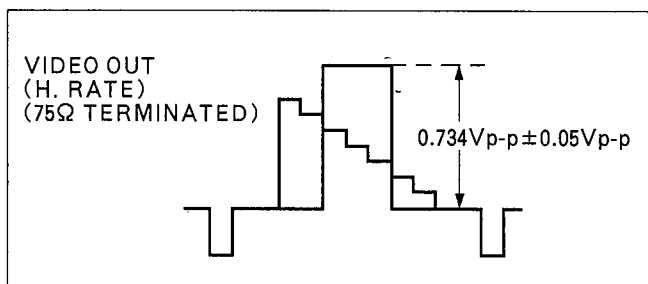

Figure E19
2. Adjust VR8804 so that the Y level becomes $0.734\text{Vp-p} \pm 0.05\text{Vp-p}$ as shown in Figure E19.